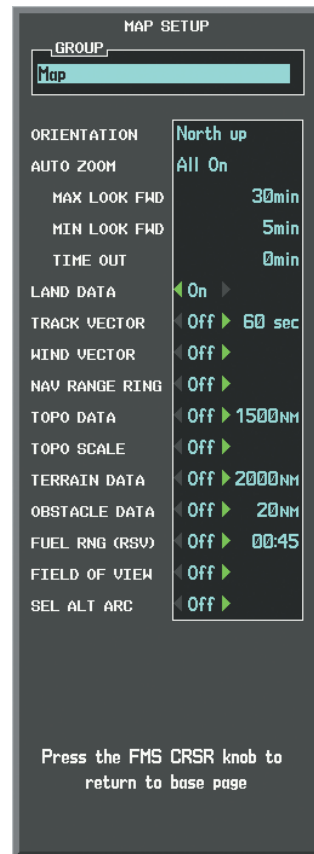

Figure 6-122 Navigation Map Page Setup Menu, Map Group
- 5) Turn the large **FMS** Knob or press the **ENT** Key to scroll through product selections (Figure 6-122).